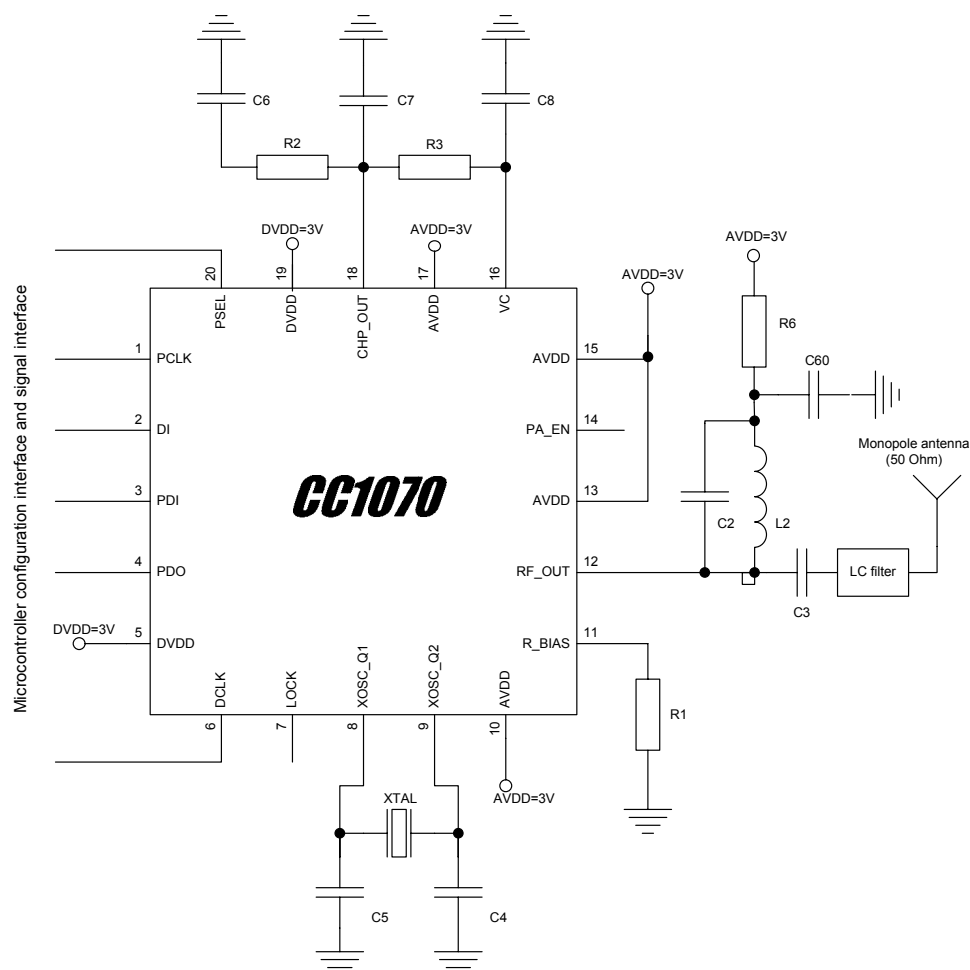

Figure 3. Typical application and test circuit (power supply decoupling not shown)
Table 3 to Table 7 gives the **CC1070** electrical specifications. All measurements were performed using the 2 layer PCB CC1070EM reference design. This is the same test circuit as shown in Figure 3. Temperature = 25°C, supply voltage = AVDD = DVDD = 3.0 V if nothing else stated. Crystal frequency = 14.7456 MHz.
**Table 10. Bill of materials for the application circuit in Figure 3**